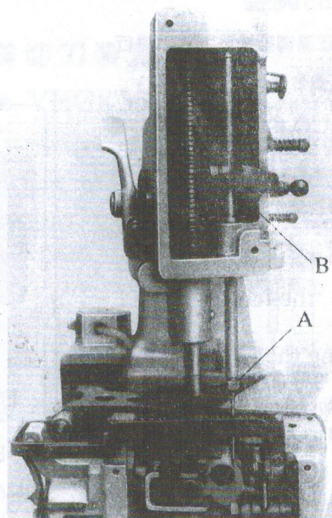

图 3
机针是易损零件，当针眼明显磨损，针尖磨钝或弯曲时，应更换新针。换针时，旋转皮带轮使针杆上升到最高点，用扳手拧松螺母（图3，A）换上新针，针柄必须插入针杆孔到底，针眼的凹形面须朝缝料前进方向，再固紧螺母。
The needle is vulnerable part. When the needle eye wears out obviously, needle point wears dull or bend, replace the needle. When replacing the needle, turn the pulley until the bar reaches its highest point. Loosen the needle set screw (A. Fig.3), and insert a new needle with the shank as far as possible into the needle bar. The needle groove must point to the sewing material direction. Then retighten the needle set screw.
卸下针板，将皮带轮按工作方向转动，使弯针运行至左边，当弯针尖超出机针直径1~1.5毫米（0.040至0.060英寸）时，机针的针眼上缘须和弯针的底边齐平（图7所示）。调整针杆高度时，拧松针杆连轴节螺钉（图3,B），上下移动针杆至合适位置后再拧紧螺钉（B），并重新装上针板。
Remove the needle plate. Rotate the machine pulley in operating direction until the looper moving to the left. When the looper point projects 1-1.5mm (0.040 to 0.060 in.) left of the needle, the lower edge of looper and upper edge of needle eye must be flush in this position (Fig.7). For adjusting, loosen clamp screw (B Fig.3) in the needlebar up or down as required. Retighten screw (B) and remount needle plate.